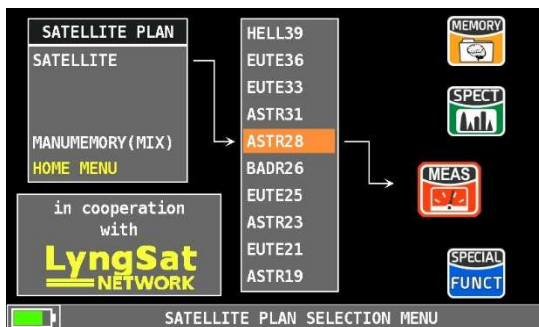
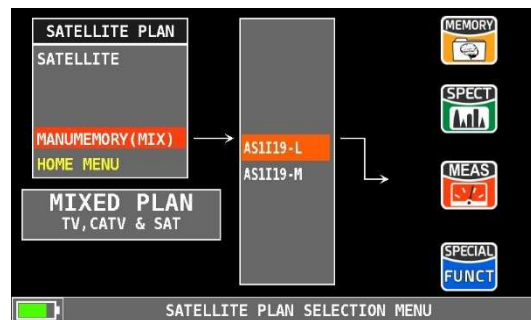

Fig.1 List of pre-memorized programme files. These cannot be edited on the meter but only on a PC with the SMART programme.
Fig. 2 List of user generated programme files. These can be created on the meter or on a PC with the SMART programme.
A logger is run against a MEMORY plan. A Memory plan is a file which contains a given number of programmes. These programmes may be transponders, TV MUXes or a combination of both. There are memory plans which are pre-memorized in your meter (ref. fig.1), these are the Satellite transponders, one file for every orbital position. There can be also MANUAL memory plans (ref. fig.2), which are defined by the user with any type of signal. A MANUAL memory plan can have SAT and TV programmes in the same file. The manual programme files may be generated on the meter itself or uploaded to the meter using the Rover SMART programme (ref. [www.roverinstruments.com](http://www.roverinstruments.com), SW update area).
Upload to your meter the “chn” memory plan available for the HD TAB 7 and HD TAB 7 EVO in the Rover web site section SW Update. There are two Memory plan files (CHN). The first one contains all transponders sorted by Polarization (H and V), this ease measurements when aligning a dish with a Wide Band LNB, there are two cables coming from an LNB, with one polarization each (Horizontal and Vertical). After uploading this file to your meter, it will show, in its name, an “L” as a suffix, that stands for LNB (Ref. fig.2).
The second chn file has all transponders sorted by frequency, this ease measurements when using a dCSS or dSCR Multiswitch output. After uploading to your meter, this Manual channel plan will show, in its name, an “M” as a suffix, that stands for Multiswitch (Ref. Fig. 2).
- Press the **PLAN** key and select one of the “chn” PLANS mentioned above, ref. fig. 2.